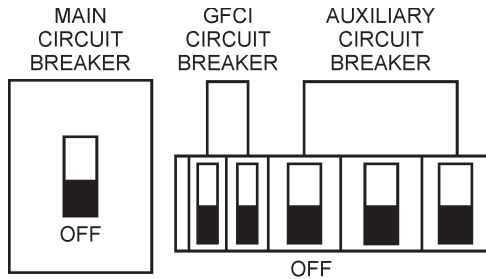

Figure 25. Main, Aux. and GFCI Circuit Breakers (OFF)
1. Place the **main, GFCI, and aux.** circuit breakers (Figure 25) in the **OFF** position prior to starting the engine.